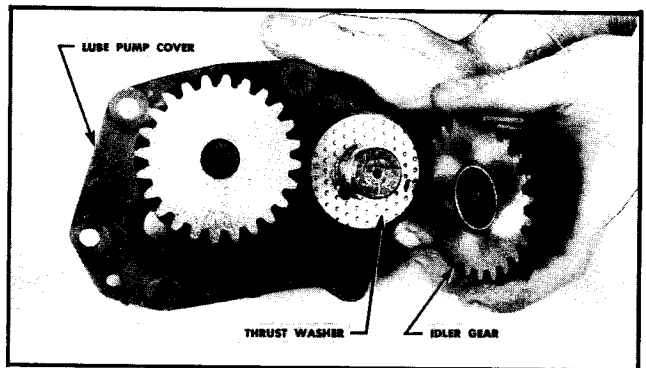

Fig. 7-11. Installing thrust washer and idler gear
12. Place idler gear over idler shaft. Fig. 7-11.